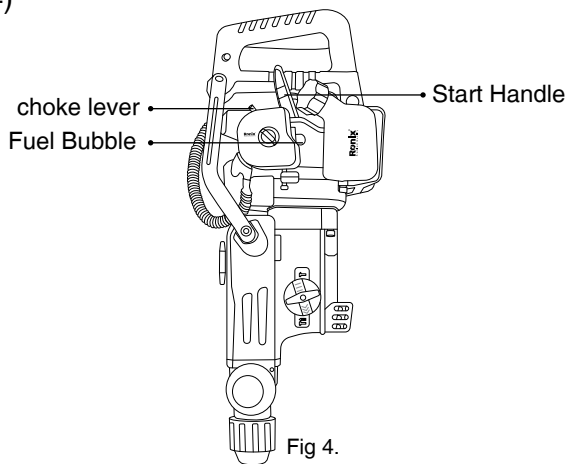

Fig 4.
- 1- Before starting the new machine. Repeatedly press the priming bulb ( transparent semicircular fuel oil bubble ) (Figure 4) to the status of full of fuel, fill the carburetor with fuel.
- 3- Open the Choke completely when the gasoline engine is started. (See Figure 4)